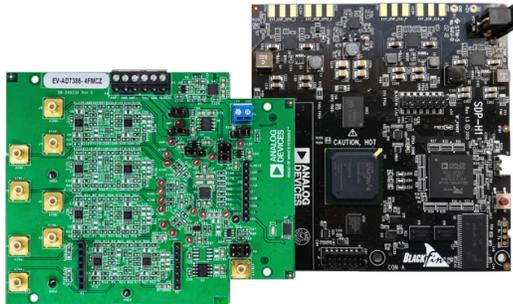

Figure 2. EVAL-AD7386-4FMCZ Board (Left) Connected to the EVAL-SDP-CH1Z Board (Right)
3. Connect the EVAL-SDP-CH1Z board to the EVAL-AD7386-4FMCZ, as shown in Figure 2.